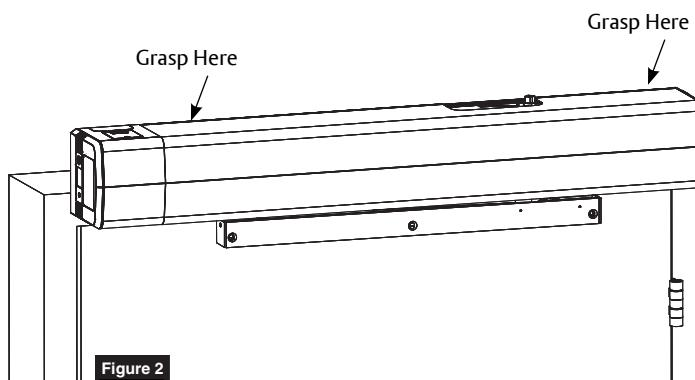

Figure 2
1. Grasping at locations shown, pull cover off of unit. (Figure 2)